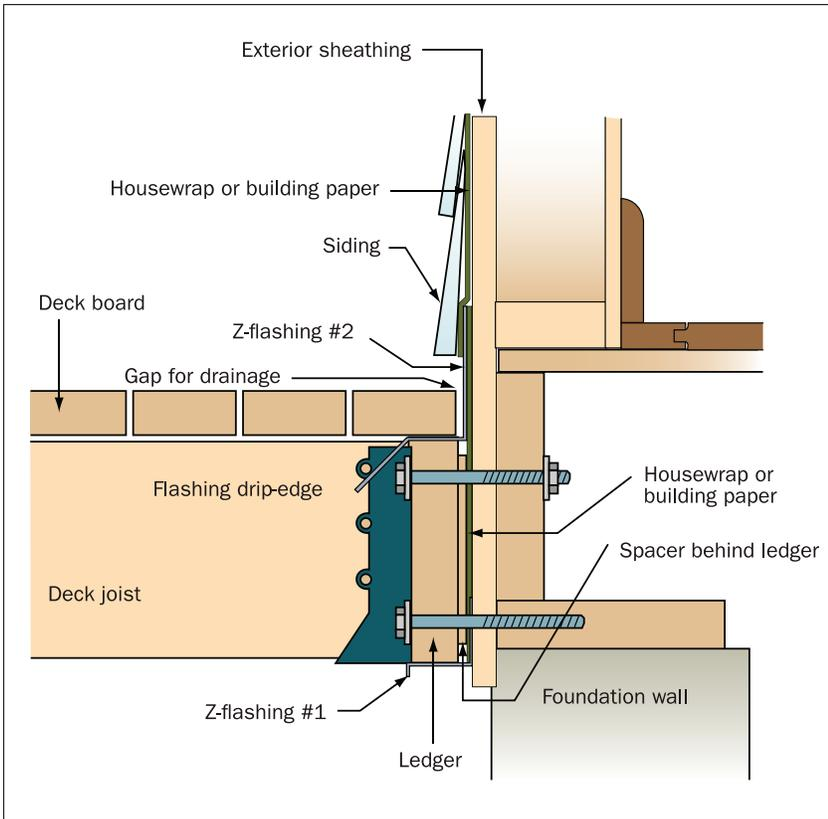

Figure 3 Deck ledger flashing.
- Leave gap between first deck board and flashing to allow for drainage (see Figure 3).
- Use spacer behind ledger to provide gap for drainage (see Figure 3).